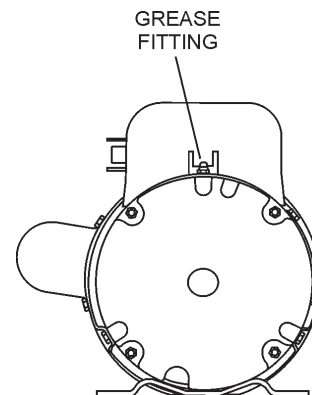

Figure 39. Grease Fittings (Electric Motor)
1. There are two grease (Figure 39) fittings at each end of the electric motor that will require lubrication. Lubricate these fittings about **every 16 months**.